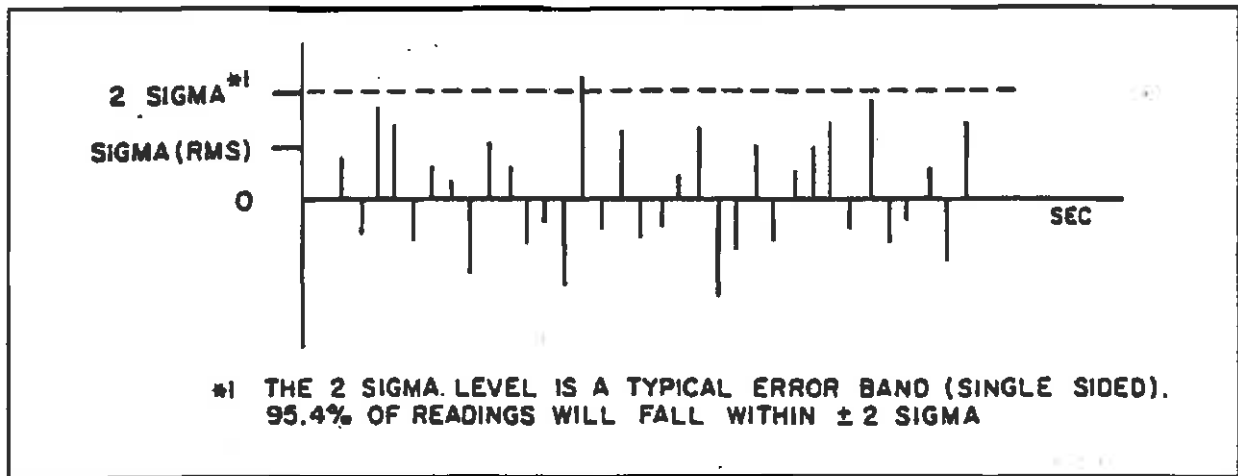

Figure 4-6 Typical Error Band Specifications
- 4-25 **Error Computation.** Since the noise is Gaussian, both before and after filtering, statistics show the level of confidence factor that can be associated with a given reading. (At medium and high power levels, the confidence factor is essentially unity.) Figure 4-6 shows a typical set of samples and a typical error band specification of 2 sigma. Under these conditions, 95.4% of the readings will fall within ± 2 sigma.